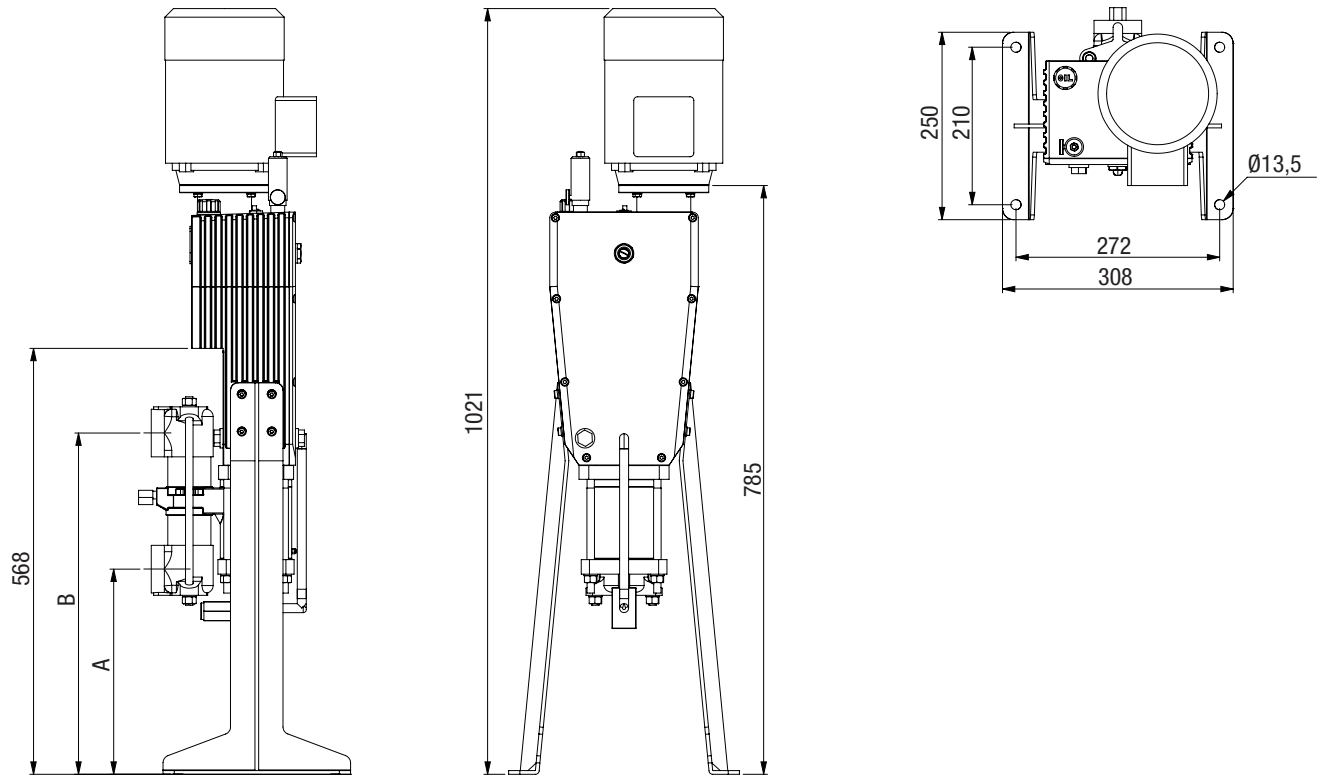

Fig. 5: Dimensional drawing MEMDOS KMS LB/LA
- The dosing heads are standardly fitted in a certain direction (see Fig. 5: Dimensional drawing MEMDOS KMS LB/LA“ on page 17). The 1.5“ and 2“ dosing heads can also be fitted in the opposite direction.